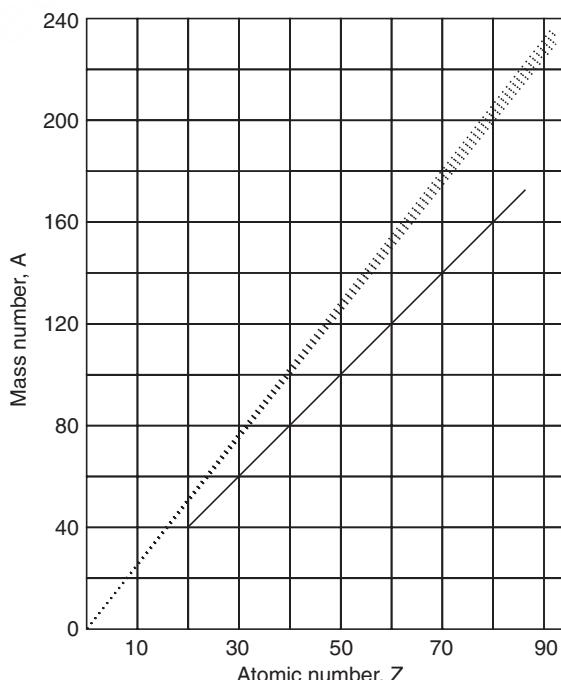

Fig. 3.1
The graph (Fig. 3.1) is a plot of proton number (Z) vs mass number (A). The graph is more or less linear. When the value of Z is less, then the ratio A/Z for a nucleus is 2 i.e., light elements possess equal number of protons and neutrons and the nucleus is stable; when the proton number of the nucleus exceeds 20 the nucleus shows the tendency to be unstable and when the proton number (Z) exceeds 83 the nucleus becomes more or less unstable. As the difference of Z and A increases the nucleus becomes totally unstable. So it can be said that radioactivity is a phenomenon to stabilize the nucleus by decreasing the ratio A/Z of the nucleus.